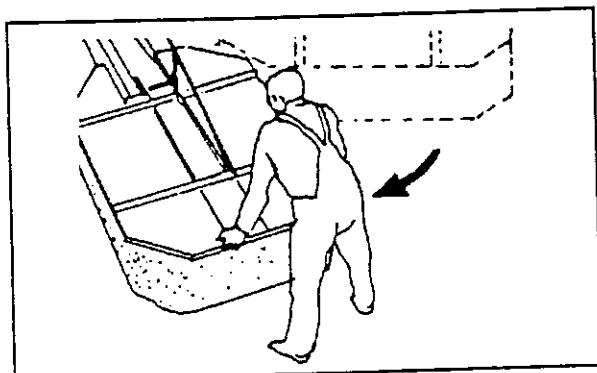

fig. 4-31
6. Grip the outer end of the mower support beam (fig. 4-31), until...